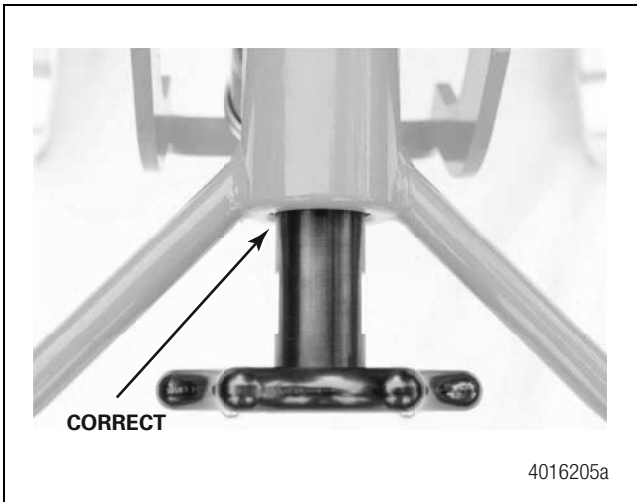
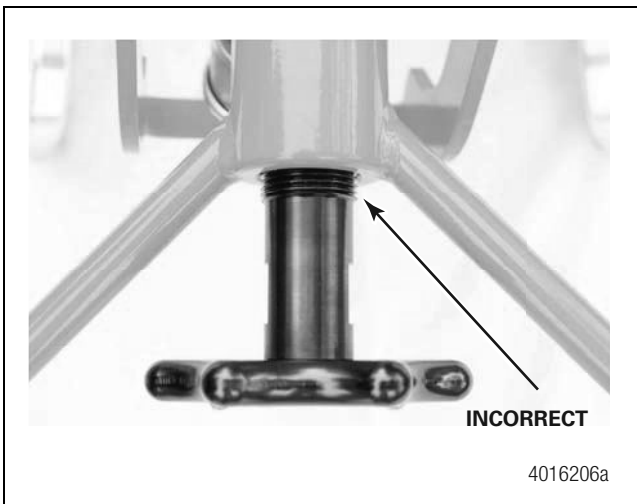

Figure 2
Figure 3
1. To attach Doctor Preload, first adjust the yellow T-handle so that it is "loosened" to the point that it completely covers the threads on the shaft of the spindle adapter shaft as shown. Figure 2 and Figure 3.